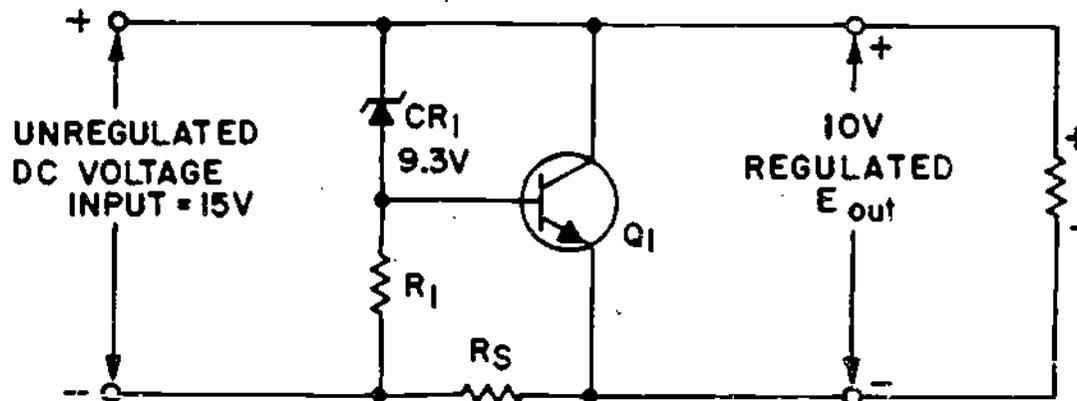

FIGURE 15
23. THIS IS A TEST FRAME. STUDY THE SCHEMATIC IN FIGURE 15 IN ORDER TO ANSWER THE TEST QUESTIONS. AFTER YOU ANSWER THE TEST QUESTIONS COMPARE YOUR ANSWERS WITH THE CORRECT ANSWERS GIVEN ON THE TOP OF THE PAGE FOLLOWING THE QUESTIONS.